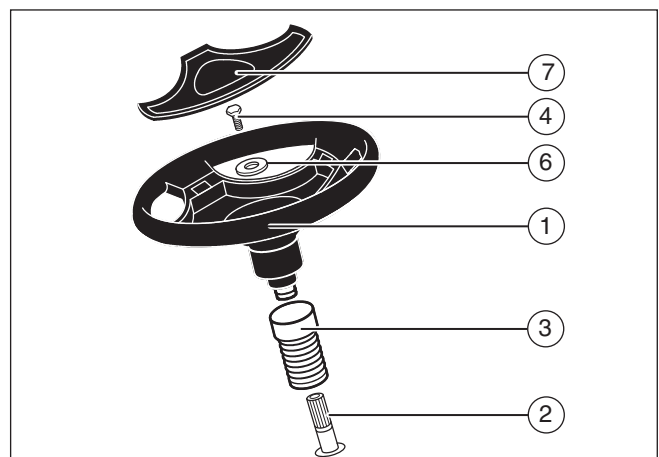

Figure 3
2. Slide the cover (3) over the steering post (2) (see **Figure 3**). Make sure the collar of the cover is on top.
3. Slide the steering wheel (1) onto the steering post.
4. Attach the steering wheel to the steering post with screw (4) and washer (6).
5. Some models have an optional insert (7) in the parts bag. Attach the insert to the center of the steering wheel.